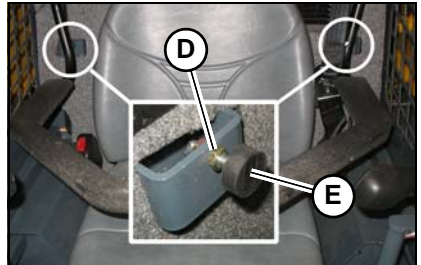

Figure 8 – Restraint Bar Lowered Position Adjustment
Loosen jam nut (D, Figure 8), and rotate rubber stop (E) in or out to the desired position. Tighten jam nut (D) to lock rubber stop (E) in position.